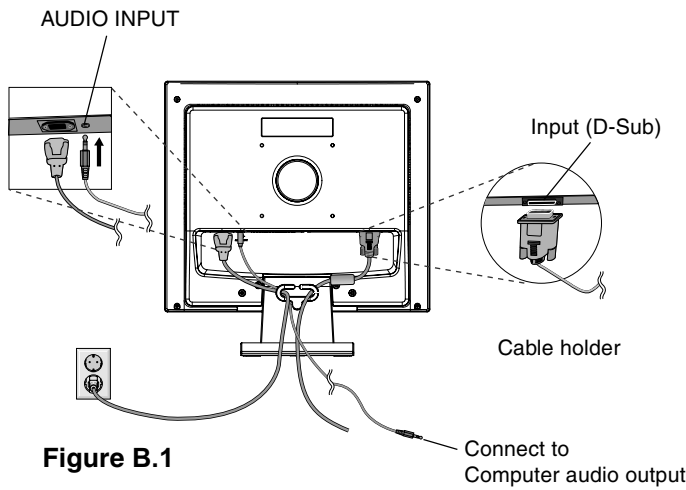
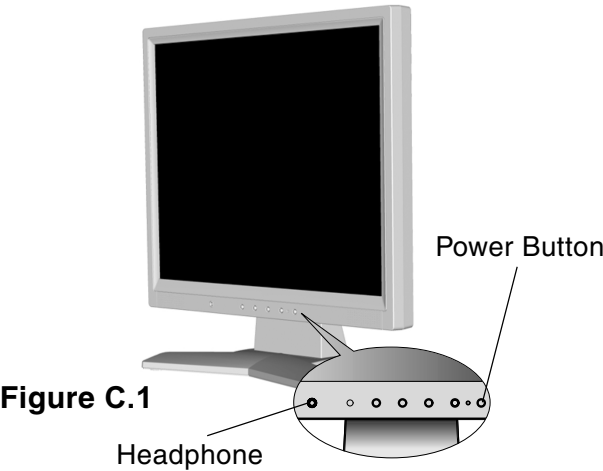

Figure B.1
Figure C.1
3. Connect the 15-pin mini D-SUB of the video signal cable and Audio Cable to the appropriate connector on the back of the monitor (**Figure B.1**). Connect the Headphone (not included) to the appropriate connector at the front of the monitor (**Figure C.1**).
4. Connect one end of the power cord to the monitor and the other end to the power outlet. Place the Video Signal Cable and power cord to the Cable holder (**Figure B.1**).